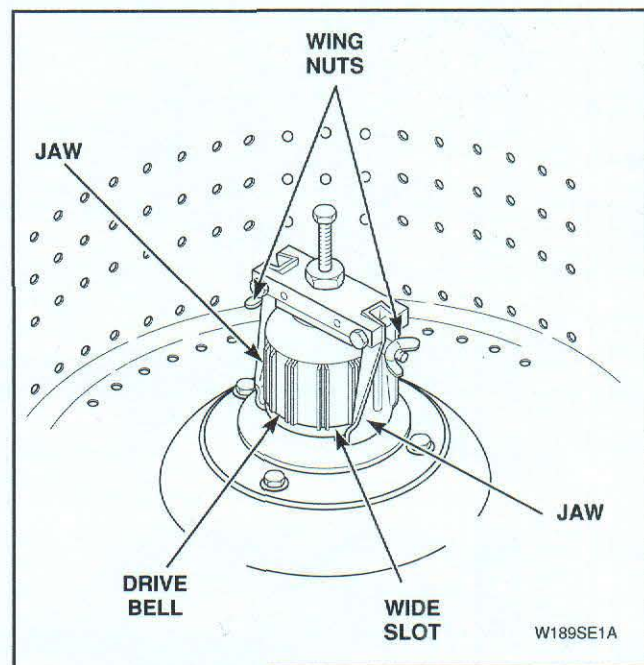

Figure 15
- Place tool over drive bell, making sure indent on jaws line up with wide slots on bell, *Figure 15*.
- Place lip of each jaw under bottom edge of drive bell, making sure indent on jaws line up with wide slots on bell. Then tighten two wing nuts to hold jaws firmly against drive bell, *Figure 15*.